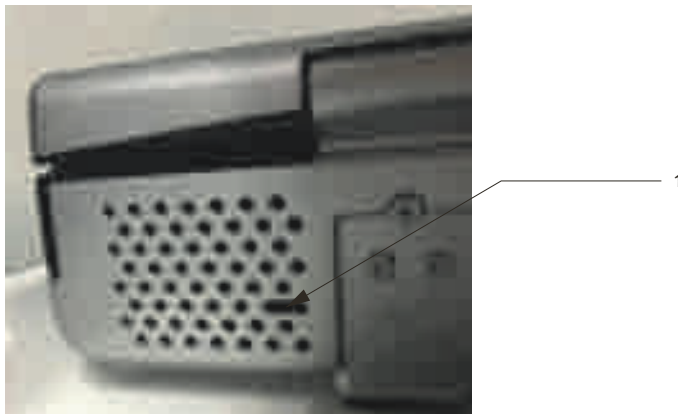

Figure 6-12: Back of the equipment
- STEP 4** Keep the push button pressed, and then align and insert the T-bar to the security slot (1 in *Figure 6-12*) of the Portable Ultrasound Diagnostic Scanner.